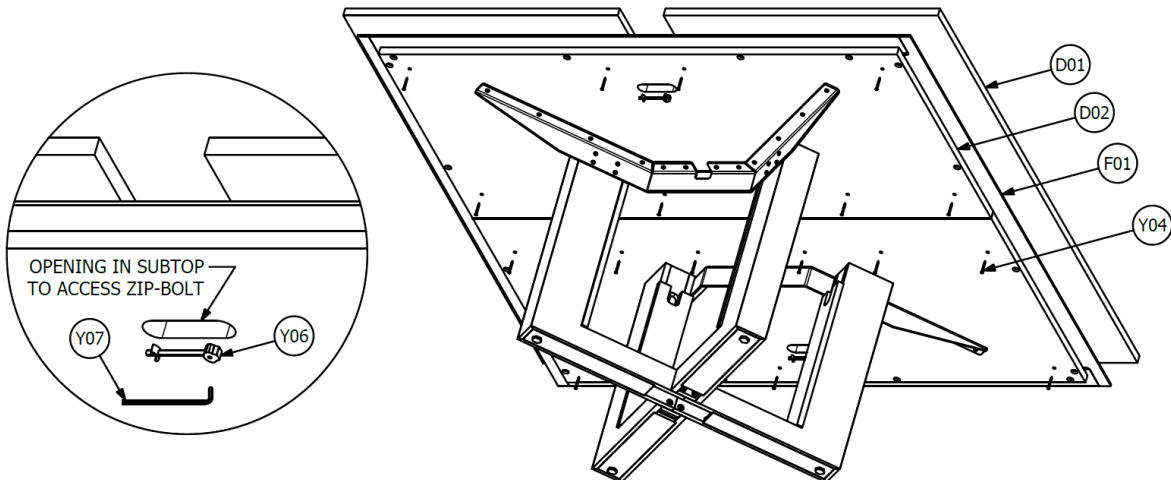

FIGURE 07: 2-PIECE WOOD TOP ASSEMBLY
1. Place ALL Top (D01) sections on Subtop (D02). See Figure 07.
2. Using Zip-bolt (Y06) connect the Top sections to each other thru the openings in the Subtop. See Figure 07.
3. If equipped with Edge Trim (F01), position the Top Assembly so that an equal amount (1/4") of Edge Trim shows. If not equipped with Edge Trim, center Top on Subtop. See Figure 07.
4. Once Top is positioned, use Fastener (Y04) to secure them. See Figure 07.